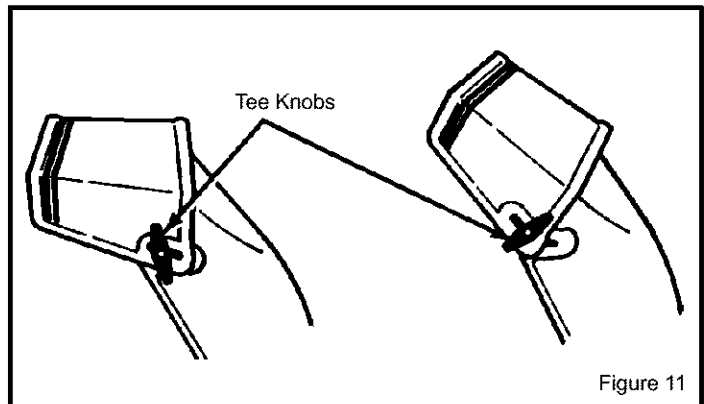

Figure 11
2. Adjust snow chute deflector. Loosen wing nut on the side of the snow chute and raise chute deflector for more distance. Tighten wing nut. (see Figure 11).